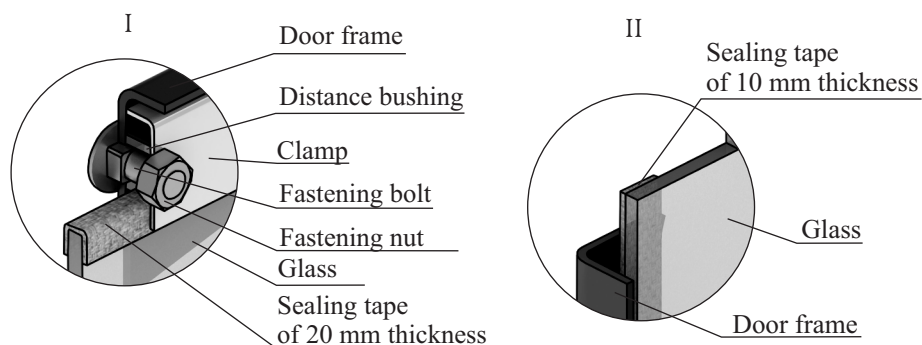

Figure 18. Fastening of translucent screen of the "Vitra" model door
1. Unscrew two nuts fixing the clamp (fig.18.I), and disassemble it and distance bushings.
3. Take new glass and if it doesn't have thread sealing tape stick them: tape of 20 mm in width is stuck from the top and from below the glass, in a «П» shape (fig. 18.I), tape of 10 mm in width is stuck vertically, along the lateral sides of the glass (fig. 18.II).
4. Insert the glass into the stop, at that the tape stuck from the lateral sides (vertical) shall be pressed between the glass and the door frame (fig. 18.II).
ATTENTION! Nuts fastening the clamp are screwed to the mounting bolts through the remote plugs (Figure 18.I).